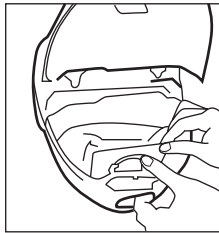
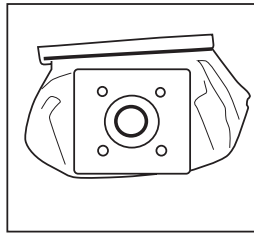

Fig. 8
Fig. 9
2. Unclip the dust bag and lift the full dust bag out of the holder (fig. 8). Slide off the dust bag clip (fig. 9) and empty the contents of the bag into a dustbin. If the dust bag gets clogged, take it outside and tap it gently to release the clogging.